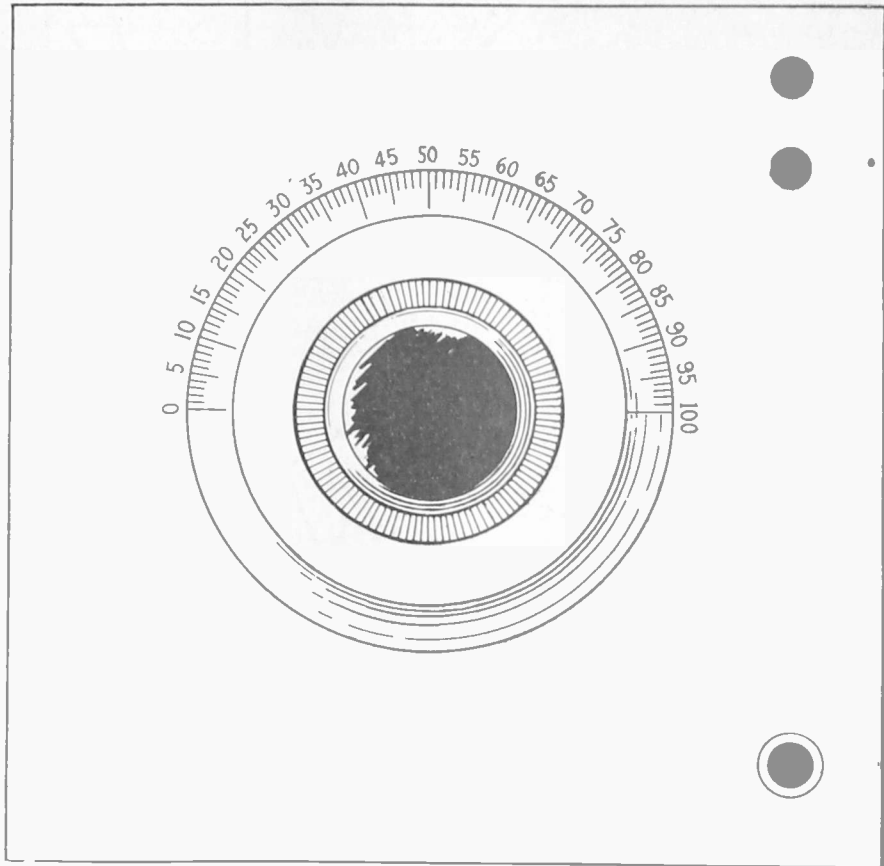

FIG. 3—Panel layout for 1-dial DX set, actual size. Use it as a template. The panel is 5" x 5"
You now reach the result shown in Fig. 3. Four little rubber-covered tacks are driven in the base so the base will not scratch any polished surface. Now place a fixed condenser (it does not make any difference what capacity, for the moment) on the label of the record and drill a hole through the record on each side through the eyelet holes in the condenser.
**FIG. 2 (bottom)**—The record after cutting on the white lines. Two small holes are made with a No. 27 drill near the center holes of the record for the binding posts and condenser. **Fig. 3 (top)**—How to mount the cut record on the stand with the supporting stick. **Fig. 4 (center photo)**—The wire is wound over one spoke and under the next, progressing around the circle.
FIG. 2—Side view of the primary and secondary of low-loss coupler for the 3-circuit tuner, i. e., the view obtained when looking from one end of the 7 x 12 inch panel. The baseboard is at bottom. Notice that the primary is variable, rotated from the dial. This is unusual in a 3-circuit tuner and increases efficiency. The primary is nearer to you than the secondary. See Fig. 3 for view of the completed tuner.
Now take your 5" x 5" panel. It may be difficult to purchase a panel of this size. If so, get the smallest size possible and cut it to these measurements with a hacksaw. If preferable, leave the smallest size panel you can buy just the way it is and draw a line across the middle, parallel with top and bottom. Measure 5" from the left and draw a perpendicular line in pencil parallel with the side. When you come to the mounting of the variable condenser drill for the shaft center on the horizontal line, the same distance from the left-hand side as shown in the panel layout (Fig. 3).
Assuming that Fig. 3 is being followed, drill a  $\frac{1}{4}$ " center hole for the shaft of the variable condenser. Fig. 3 is printed in actual size, so the dimensions may be taken from the drawing. Use the template that comes with the condenser, for drilling the hole for the machine screws.